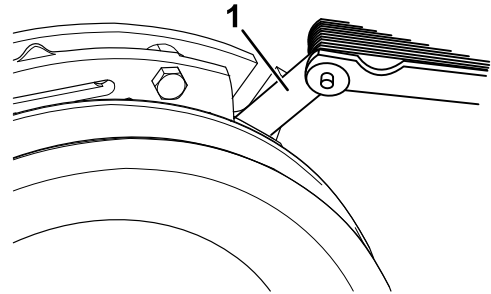
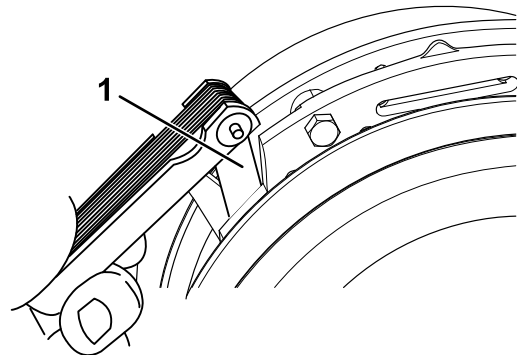

Figure 66
Figure 67
- E. Using a 0.010 inch thick-feeler gauge, verify that a gap is present between the rotor and armature face on both sides of the brake pole as shown in Figure 66 and Figure 67.